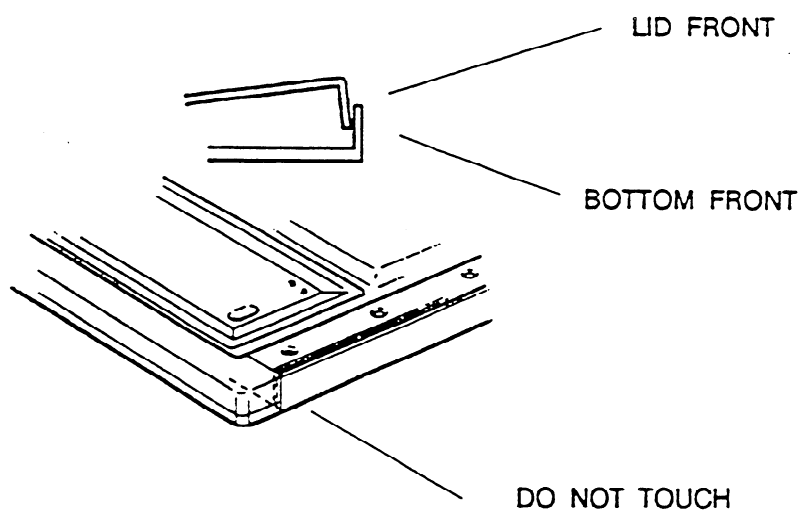

figure 85
4. Use your hand to check the pressure to close the LID. No extra pressure should be used when the LID HOOK touches the BOTTOM HOOK (see fig. 85).